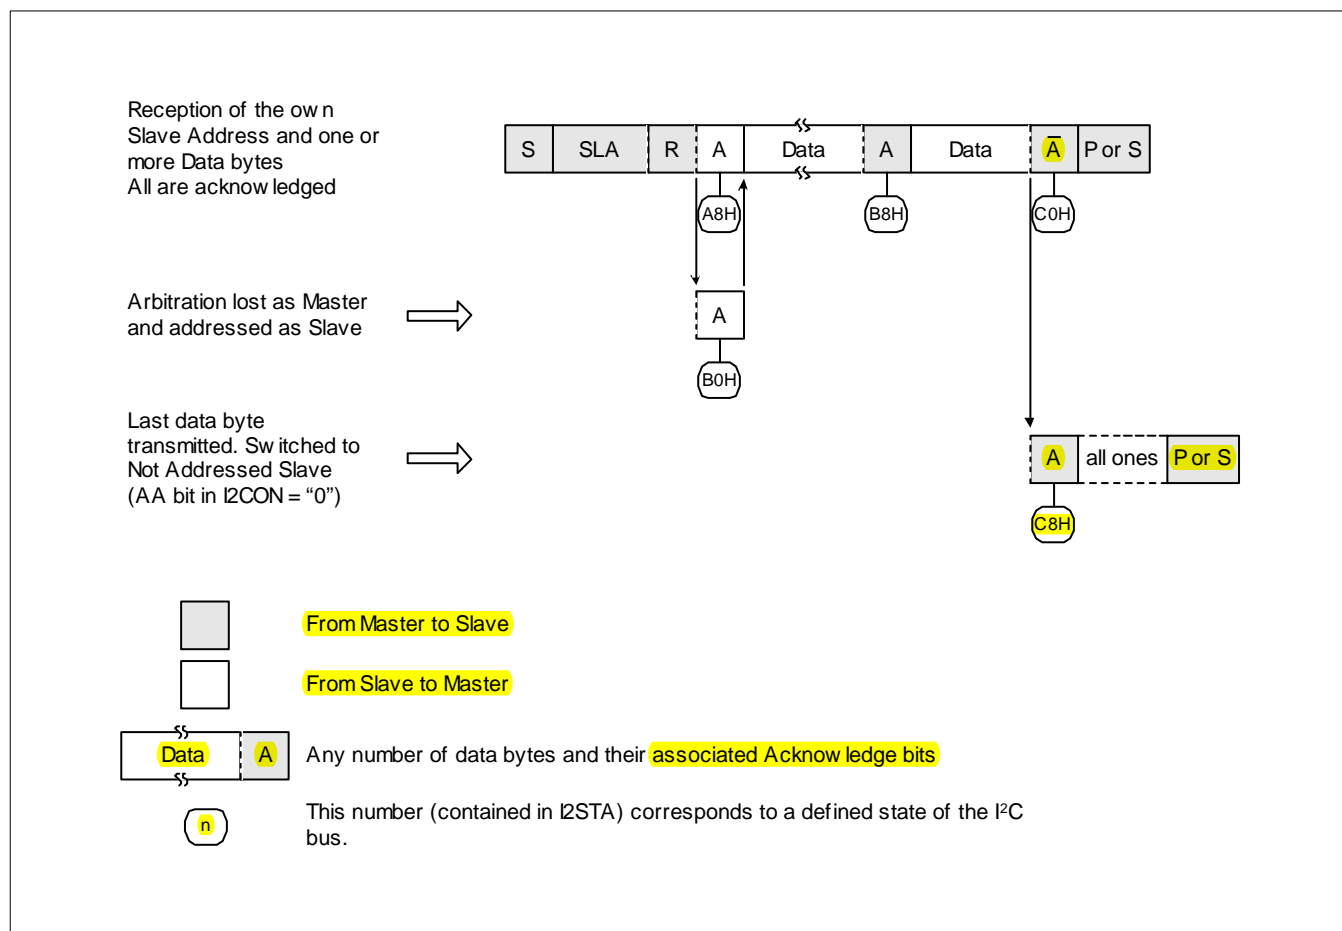

Figure 32: Format and States of the Slave Transmitter Mode
In the slave transmitter mode, a number of data bytes are transmitted to a master receiver (see Figure 32). Data transfer is initialized as in the slave receiver mode. When I2ADR and I2CON have been initialized, the I2C block waits until it is addressed by its own slave address followed by the data direction bit which must be "1" (R) for the I2C block to operate in the slave transmitter mode. After its own slave address and the R bit have been received, the serial interrupt flag (SI) is set and a valid status code can be read from I2STAT. This status code is used to vector to a state service routine, and the appropriate action to be taken for each of these status codes is detailed in Table 105. The slave transmitter mode may also be entered if arbitration is lost while the I2C block is in the master mode (see state B0H).